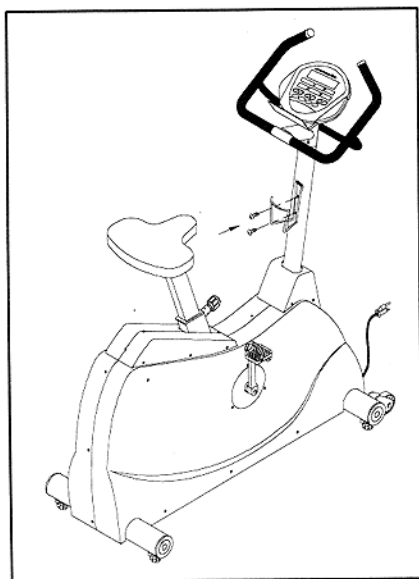

Fig.6
8. Assemble the water bottle holder using two screws provided (see Fig 6).